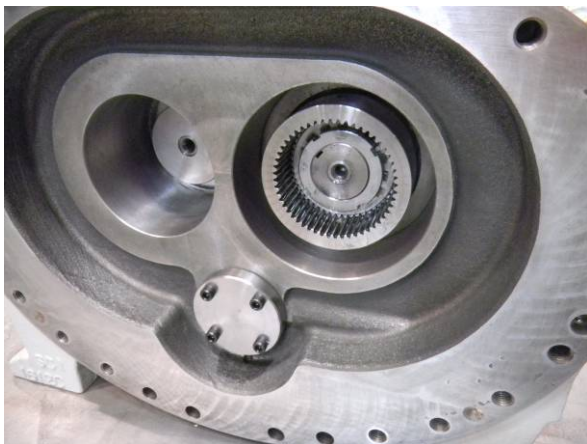

Fig. 028 Low-stage After Separation
* Fig.028 and 029 are gear coupling before the design modification of February, 2011.